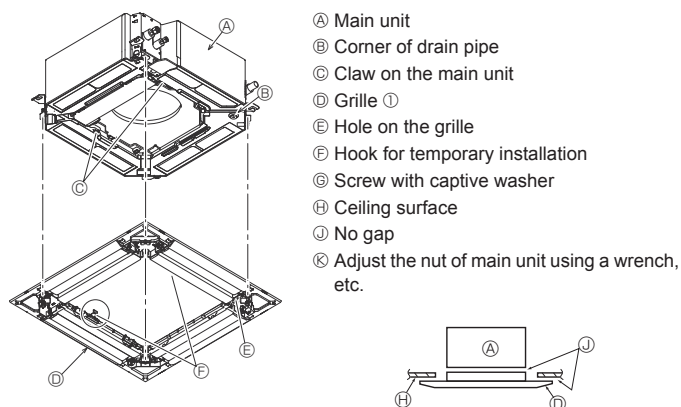

Fig. 9-6
9.4.2. Temporary installation of the grille (Fig. 9-6)
- By tightening the pre-installed screws, fix the grille onto the main unit. (Fig. 9-6)
- After tightening the screw, confirm that the two grille hooks (Fig. 9-6) are latched onto the hooks on the main unit.